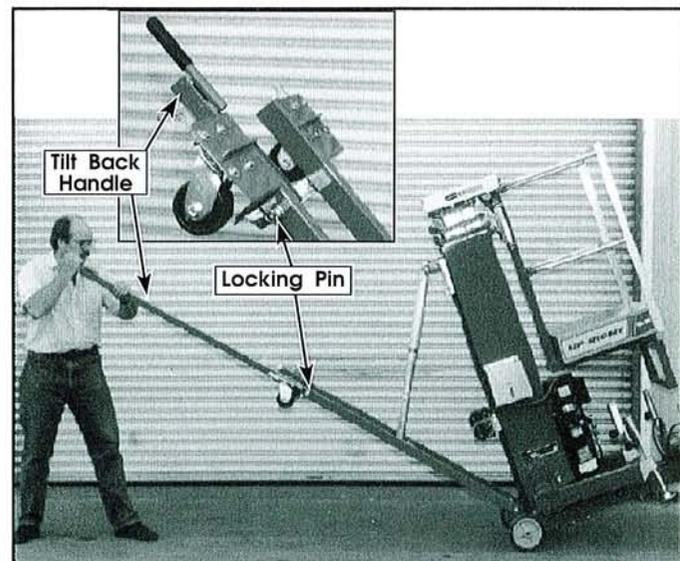

Figure 16: Lowering and raising with Tilt Back Handle
4. Place Tilt Back Handle in tilt/lift position by releasing locking pin and pulling handle out of the Tilt Back assembly until the locking pin engages (Figure 16).
5. Push down on the Tilt Back Handle until the unit comes to rest on the rear transport support frame. As the mast tilts back, counterbalance the machine's weight by increasing upward force on end of Tilt Back Handle (Figure 16). This allows machine to gently come to rest on Tilt Back casters.
2. Fully extend the Tilt Back Handle until the locking pin engages (Figure 16).
3. Lift up on the Tilt Back Handle. As the mast approaches vertical, counterbalance machine's weight by increasing the downward force on end of Tilt Back Handle (Figure 16). This allows the machine to settle gently on the front casters.